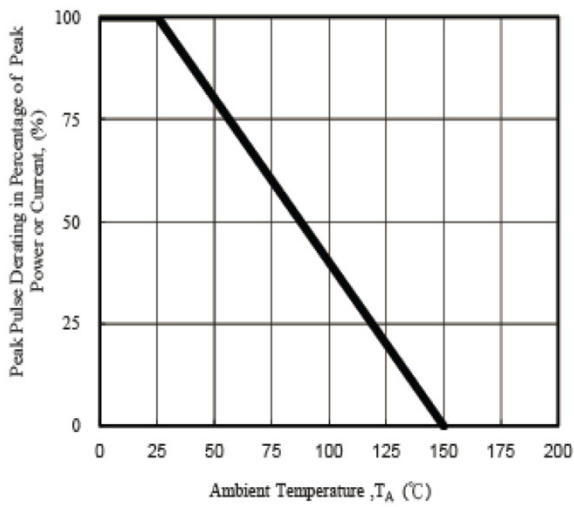
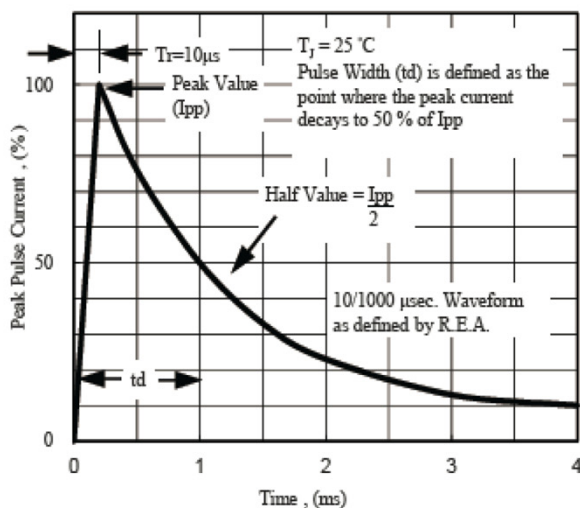

Fig. 1 - Pulse Derating Curve
Fig. 5 - Pulse Waveform
1) Non-repetitive current pulse per Fig.5 and derated above $T_A=25^{\circ}C$ per Fig.1;